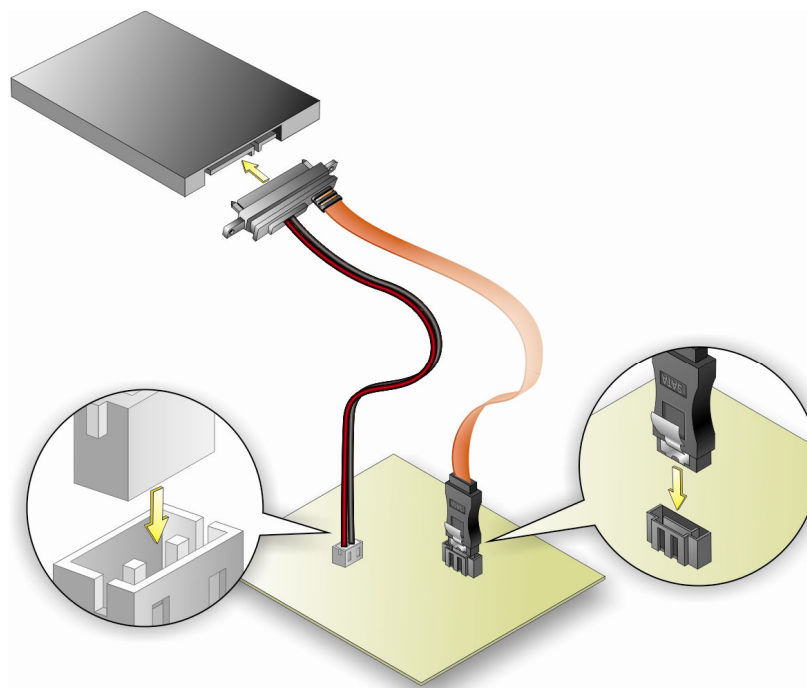

Figure 4-16: SATA Drive Cable Connection
Step 2: Insert the cable connector. Insert the cable connector into the on-board SATA drive connector and the SATA power connector. See **Figure 4-16**.
Step 3: **Connect the cable to the SATA disk.** Connect the connector on the other end of the cable to the connector at the back of the SATA drive. See **Figure 4-16**.